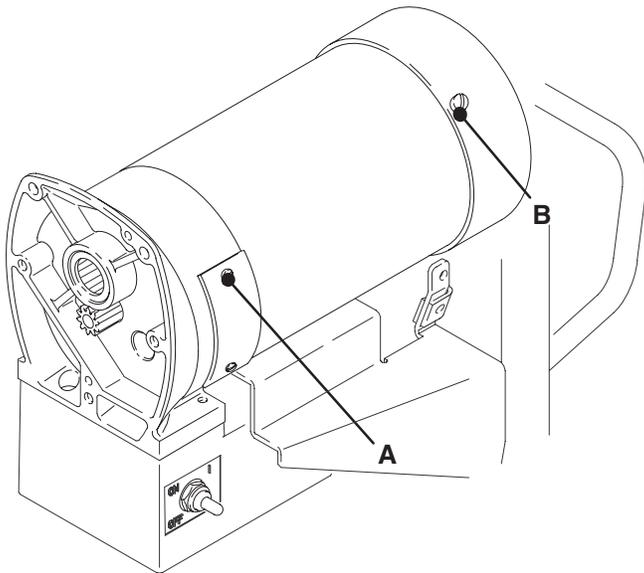

Fig. 12
3. Remove motor brush inspection covers (A). See Fig. 12.
1. Remove fan cover (B). See Fig.12.